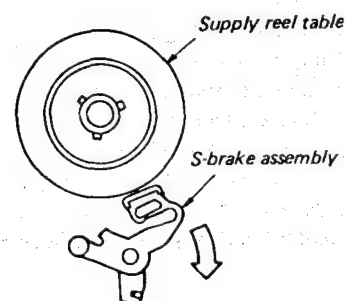

Fig. 1-3-34 S-brake assembly
Move the S-brake assembly in the direction shown by the arrow before removing the reel table. Take care not to touch the pad surface of the S-brake. (Fig. 1-3-34)
7. When reinstalling the S-reel table assembly, temporarily move the S-brake assembly in the direction shown by the arrow, using a tweezer. (Fig. 1-3-34)